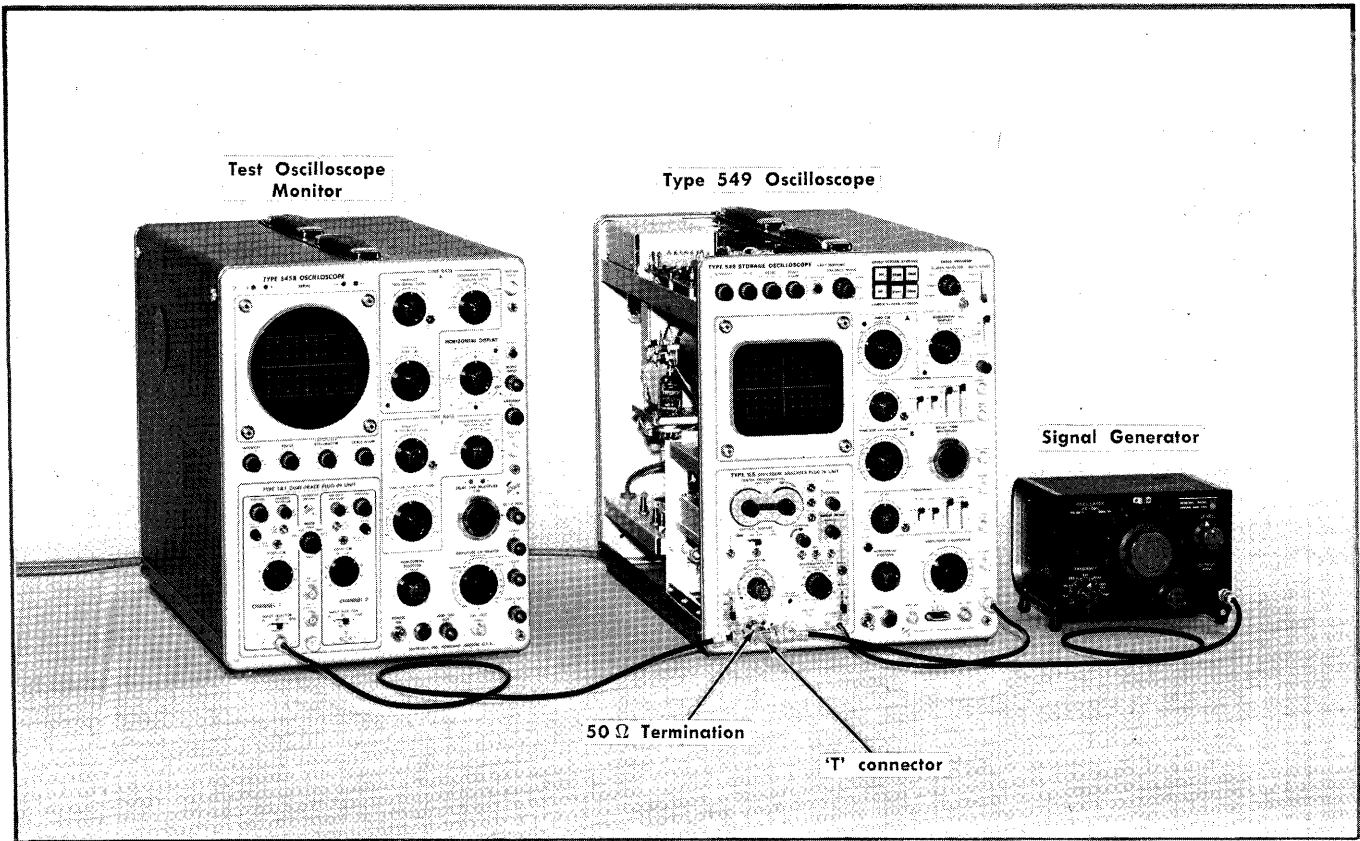

Fig. 6-19. Equipment setup to check spectrum display flatness.
a. Equipment setup is shown in Fig. 6-19. (1L5 must be installed in oscilloscope.)